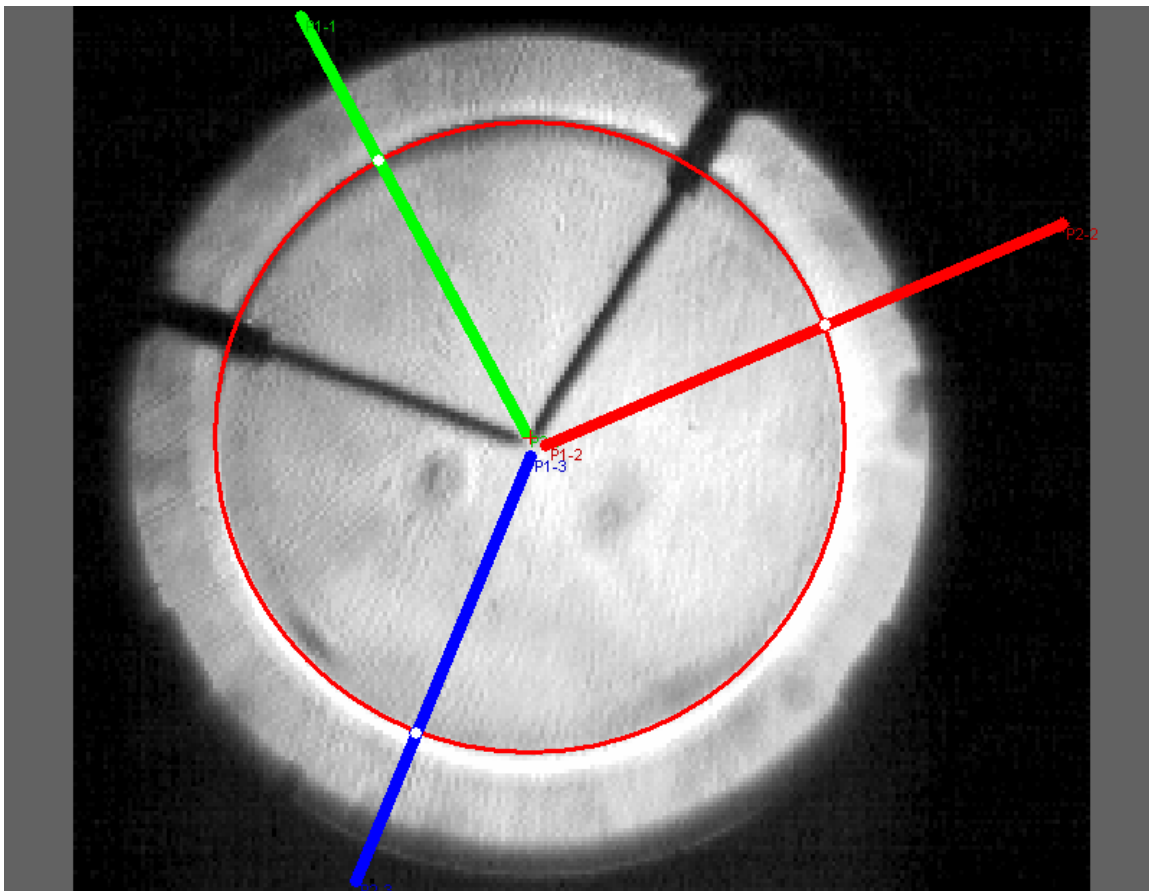

Figure 6
15. Click the “Track Forward” button. You should now see a more accurate track of the flame leading edge. Figure 6 shows frame 30. Note how accurately the circle fits the radius of the expanding flame.